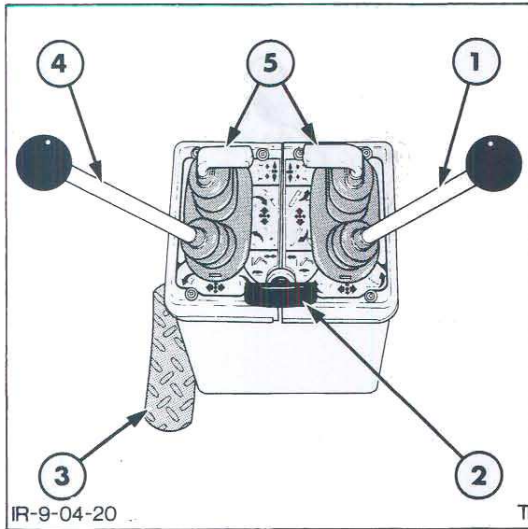

Figure 4
1. Release the oil pressure on the clamping cylinders by pulling up the 'T' handle on the control console, Figure 4, and retracting the stabiliser leg until the system relief valve operates.